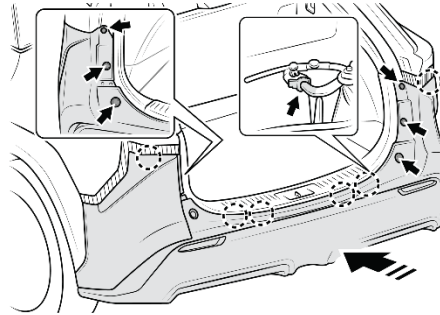
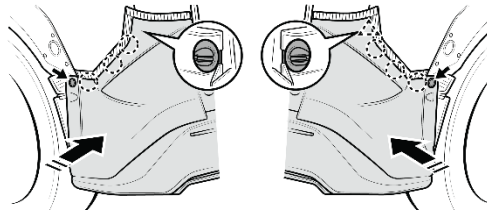

Fig 16-1
Fig 16-2
- (a) Reconnect the wire harness for parking brake support system. (Fig 16-1)
- (c) Re-engage all clips by pushing forward bumper assembly. (Fig 16-1)
- (d) Reinstalled 4 screws (2 on LH, 2 on RH side) in middle and lower locations. (Fig. 16-1)
- (e) Reinstall 2 upper push pins (1 on LH, 1 on RH side). (Fig. 16-1) (Re-engage clips on side of bumper by pushing in direction of arrow. (Fig.16-2)
- (f) Reinstall 2 push pins (1 on LH, 1 on RH side) as show in red. (Fig. 16-2)